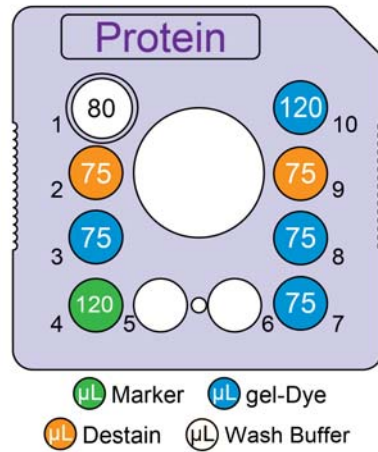
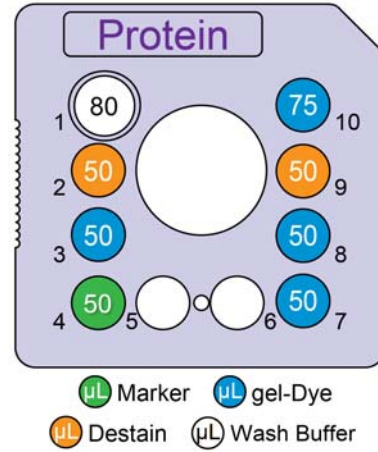

Figure 3. Reagent placement for High-throughput (up to 96 samples)
Figure 4. Reagent placement for Low-throughput (up to 48 samples)
- 5 Using a reverse pipetting technique, add Gel-Dye solution from the spin filter tube to chip wells 3, 7, 8, and 10 with volumes shown in Figure 3 (High-throughput) or Figure 4 (Low-throughput).
- 6 Using a reverse pipetting technique, add Destain Solution from the spin filter tube to chip wells 2 and 9 with volumes shown in Figure 3 (High-throughput) or Figure 4 (Low-throughput).
- 7 Using a reverse pipetting technique, add Protein Express Lower Marker (green cap ●) to chip well 4 with volumes shown in Figure 3 (High-throughput) or Figure 4 (Low-throughput). Make sure the marker volume is pipetted accurately. If there is not enough marker in chip well 4, the marker will deplete and will not be added to subsequent samples on-chip. Data collected without marker peaks cannot be analyzed by the software.
- 8 Using a reverse pipetting technique, add 80 µL Wash Buffer (purple cap ●) to chip well 1 (waste well) for both High-throughput and Low-throughput as shown in Figure 3 and Figure 4.